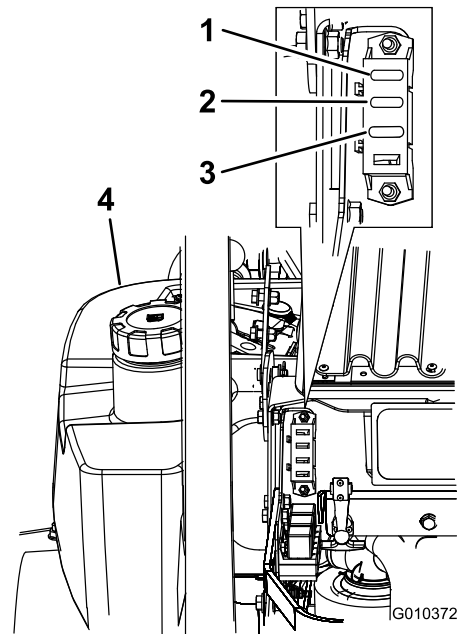

Figure 50
1. Unlatch the engine hood and raise the engine hood to gain access to fuse holder (Figure 50).
3. Install a new fuse (Figure 50).